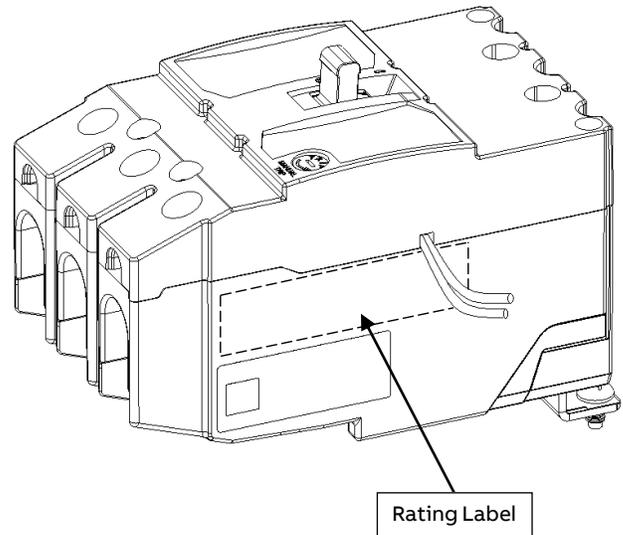

Figure 8.
1. Paste the Rating Label on the Base as shown in the Figure 8.